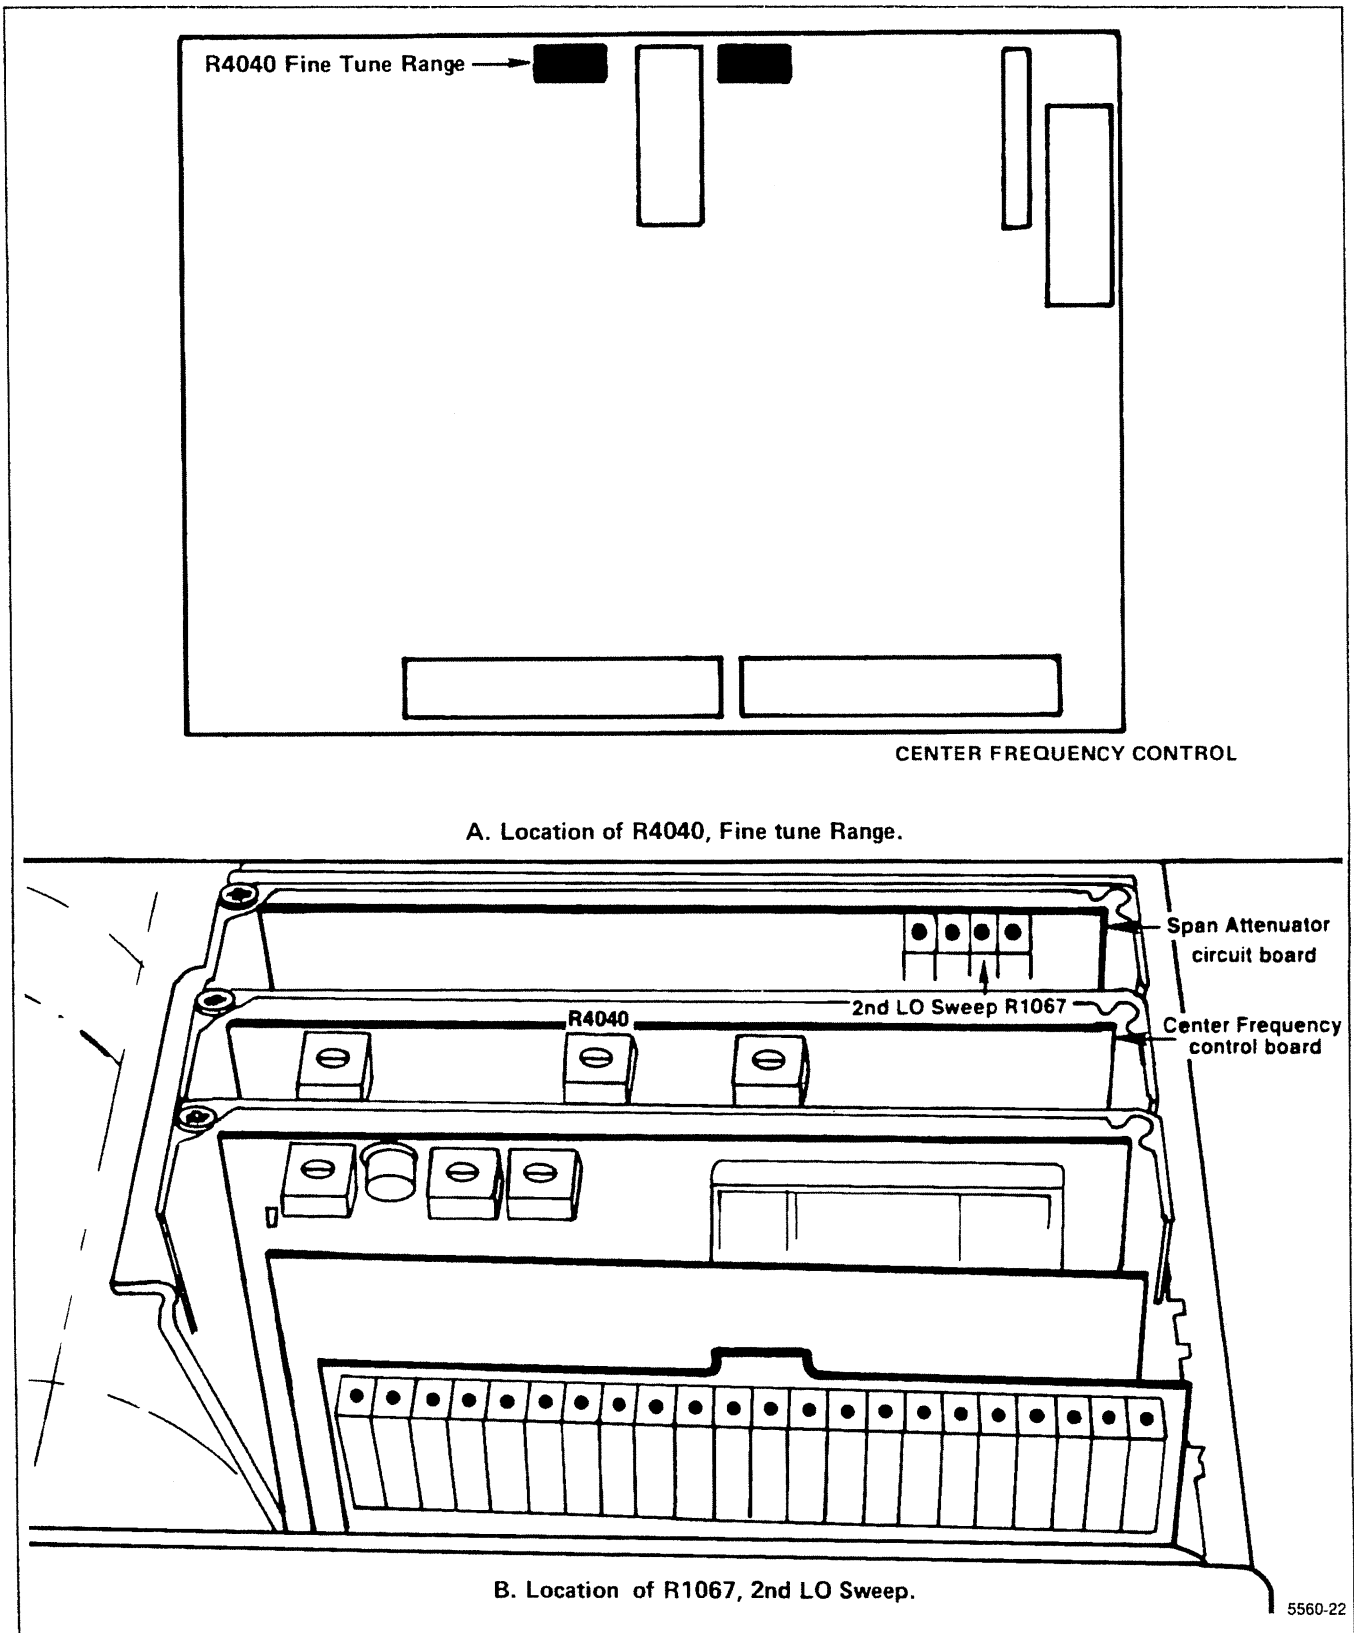

Figure 6-24. Tune and Sweep Range adjustments.
(3) If one of the pads provides a frequency that is within the range of $17.5\text{ MHz} \pm 0.25\text{ MHz}$, solder the wire strap to this pad. If the frequency is still outside the range, move the jumper to the other pad for T2092 and repeat the procedure. Frequency must equal $17.5\text{ MHz} \pm 0.25\text{ MHz}$.
a. Center the Fine Tune adjustment R4040, on the Center Frequency Control board and the 2nd LO Sweep adjustment R1067, on the Span Attenuator board (Figure 6-24).
c. Press <SHIFT> 0, 6 to disable continuous tuning of the 2nd LO. Press <SHIFT> 0 and select item 0 (ALTERNATE FREQUENCY DISPLAY), then item 2 (2nd LO FREQUENCY DISPLAY). Readout will now indicate the 2nd LO frequency.
c. Adjust the 2nd LO Sweep R1067, on the Span Attenuator board (Figure 6-24), so the comb lines on opposite sides of the screen, are exactly 8 major divisions apart.